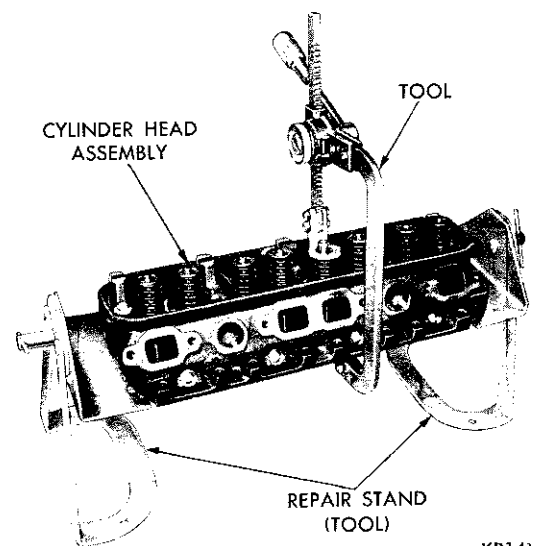

Fig. 8—Compressing Valve Spring Using Tool C-3422A
(1) With the cylinder head removed, compress the valve springs, using Tool C-3422A, as shown in Figure 8.
(2) Remove the valve retaining locks, valve spring retainers, valve stem cup seals and the valve springs.
(3) Remove any burrs from the valve stem lock grooves to prevent damage to the valve guide when the valves are removed.